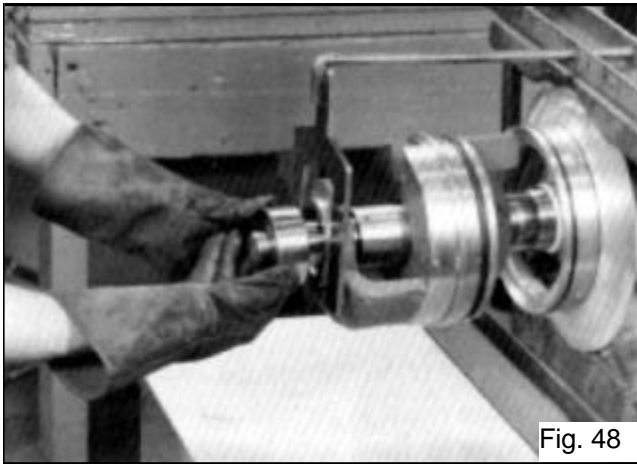

Fig. 48
- Using gloves, slide the heated bearing onto the shaft against the shaft shoulder (See Fig. 48).